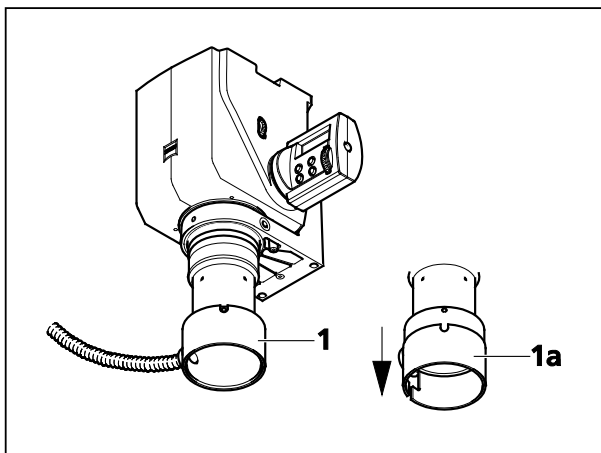

Fig. 42 Diffuser S, retractable
Fiber optic diffuser S, retractable (Fig. 42/1)
- If necessary, pull the outer sleeve of the diffuser (Fig. 42/1a) downwards to intensify the light effect on the object.